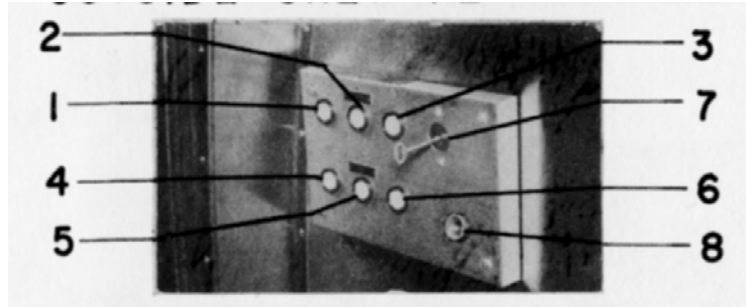

FIG. 37
1. Refer to Fig. 37. To operate doors, insert coach key into lock of the door controller chosen as the operating station, adjacent to station loading platform, and turn key clockwise. This action unlocks all doors and sets up the control circuitry.
Both body end doors are sliding type and are electrically operated to open by touch plates on each door. They automatically open when vestibule side doors are opened by pressing top OPEN push button Fig. 37 on any Master Door Controller Station (except when THIS DOOR ONLY button is pushed).